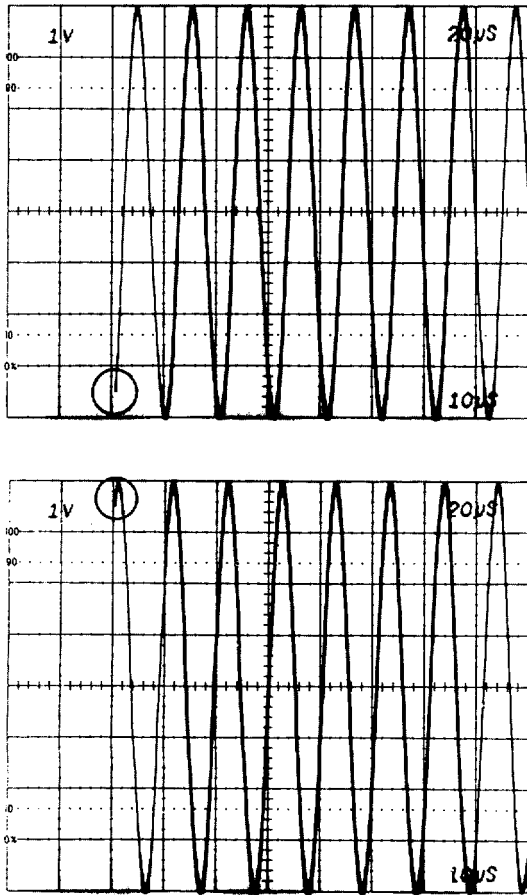

Fig. 5-12. Delayed Triggering level range. (Circle denotes triggering limits.)
d. Check-that all levels of the positive slope of the intensified zone may be selected for the sweep starting point as the Delayed Triggering LEVEL control is rotated throughout its range, and that triggering occurs at least 3.5 divisions above and below the center horizontal graticule line. See Fig. 5-12 for reference.